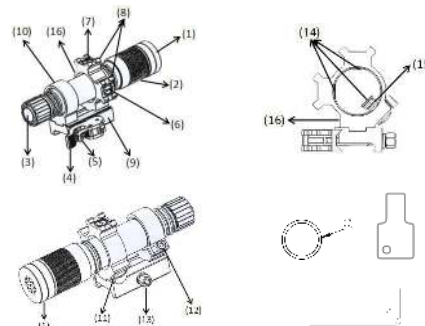

Figure 1
included in your package. Second, insert the rubber circle(17) along with the ring(10).Third, insert the spring(15) and rubber pads(14) along with the ring(16).Then, slide the main body of laser sight from the direction as same as the Figure 1.At last, tighten the screws (7), (6), (11)&(12) by provided Allen wrench and the straight screwdriver.